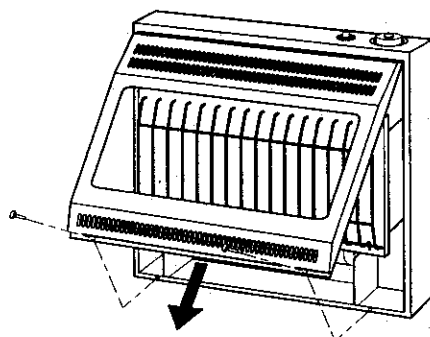

Figure 7 - Removing Front Panel Of Heater
1. Remove front panel of heater (see Figure 7).